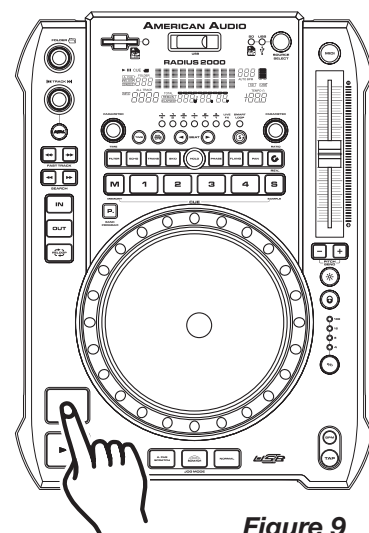
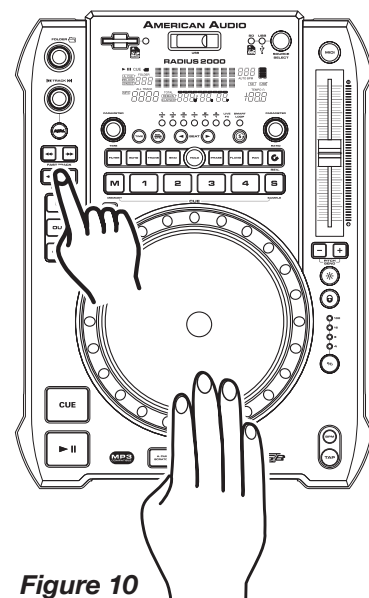

Figure 9
Figure 10
- 1) Press the *PLAY/PAUSE BUTTON (13)* during playback. This will pause playback at the exact same point the *PLAY/PAUSE BUTTON (13)* was pressed.
- 2) Press the *CUE BUTTON (14)* during playback. This will pause playback and return the track to the last set cue point.
7. AUTO CUE - *Figure 9*
8. FRAME SEARCH - *Figure 10*
This feature allows you to scroll through a track frame by frame, allowing you to find and set a starting cue, sample, or loop point. To use the scroll function you must first be in Pause Mode or Cue Mode. Once you are in Pause or Cue mode, turn the *JOG WHEEL (9)* to scroll through the track (*Figure 10*). Turning the wheel in a clockwise direction will advance the frame search and turning the wheel in a counter-clockwise direction rewinds the frame search. When you use the *JOG WHEEL (9)* the monitor (headphone level) function allows you to here what you are scrolling through. Once you reach your desired starting point you can set a cue (starting) point by pressing the *PLAY/PAUSE BUTTON (13)* as in *Figure 9*. Pressing the *CUE BUTTON (14)* as in *Figure 9* will now return you to the point you just set.